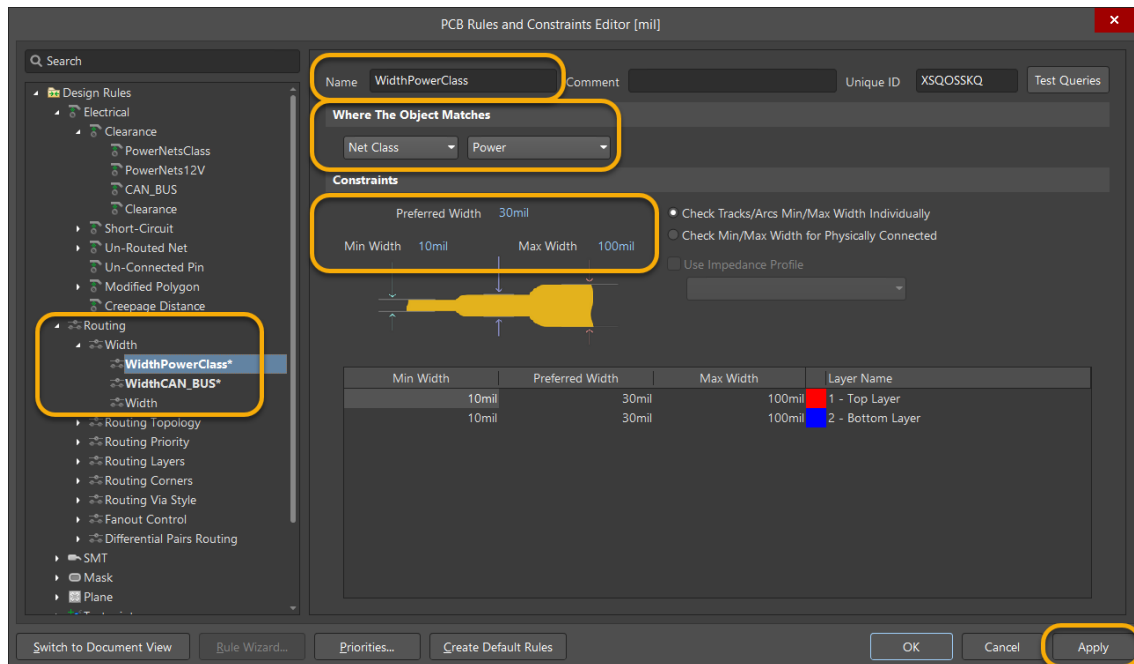

Figure 7. PowerNets Width Rule definition
26. Rename the rules, based on the Nets / Classes the rules target, Figure 7.